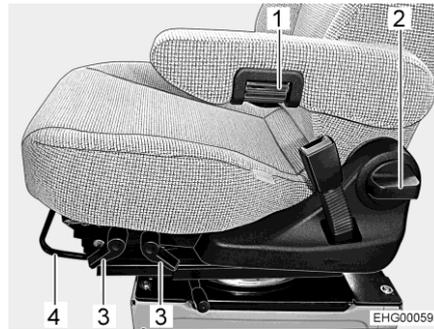

Fig. 14 Seat adjustment
- Pull the bar (Fig. 14,4) upwards.
- Pull the respective lever (Fig. 14,3) upwards.
- Turn the handle (Fig. 14,2).
- Turn the knurled wheel (Fig. 14,1) for fine adjustments. The armrest inclines upwards or downwards, depending on the rotation direction.